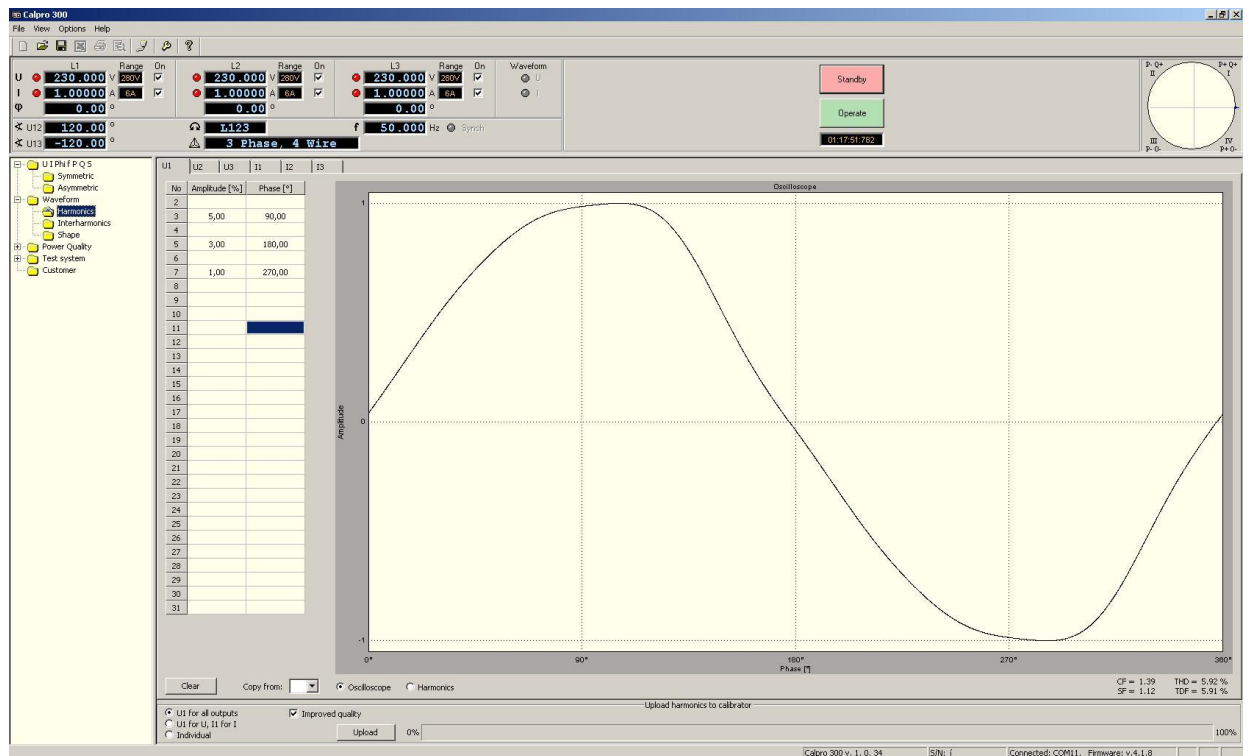

Fig.2. Harmonics window after setting amplitude and phase harmonics.
- set harmonics, the example is presented on Fig.2,